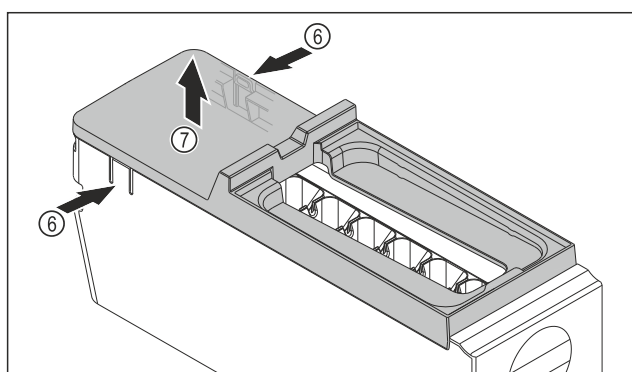

Fig. 146
- Removing the EasyTwist-Ice body cover: Push the tabs Fig. 146 (6) on both sides of the EasyTwist-Ice body with one hand.
- Use the other hand to remove the cover Fig. 146 (7) upwards.